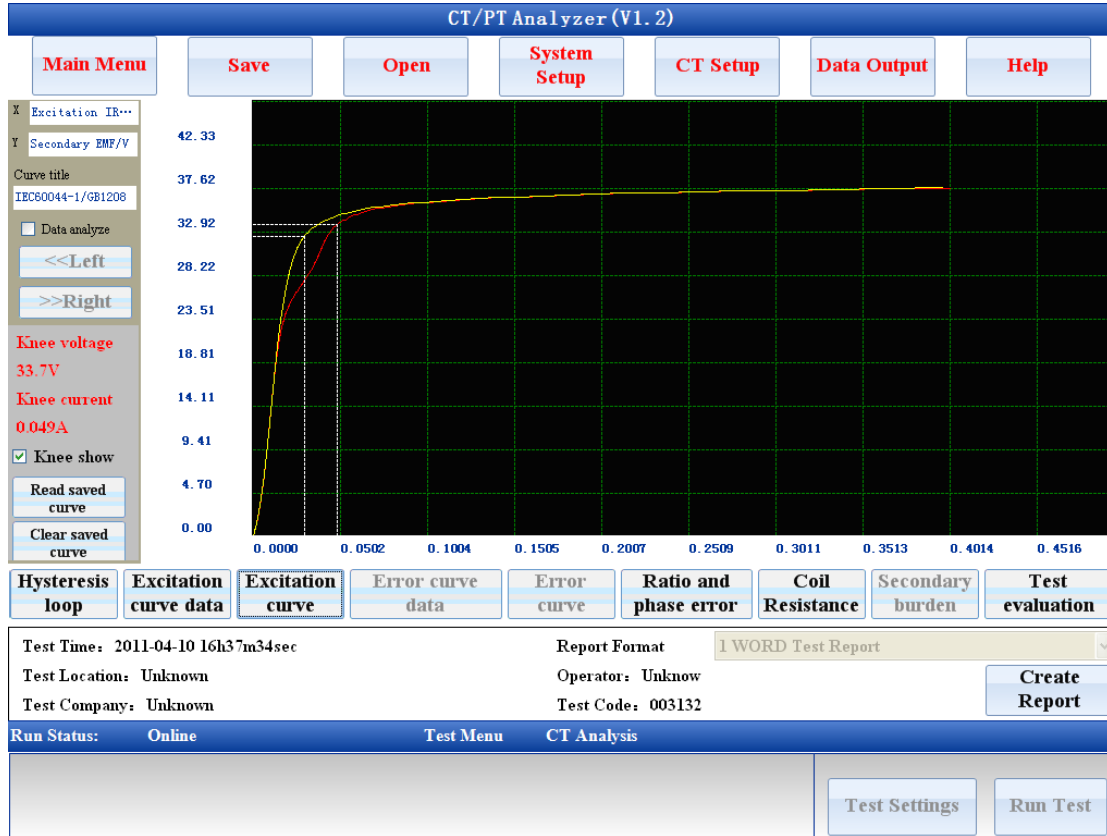

Figure 5.3 Excitation curve
The panel of excitation curve is as figure 5.3. The content of excitation curve panel includes following items.
5) Excitation curve compares with saved curve. The saved curve can be loaded to current results panel when “read saved curve” button is clicked. Both two curves are drawn on the same scope as figure 5.3, you can find the exact change in transformer excitation curve by this function. The saved curve will be cleared when “clear saved curve” button is clicked.